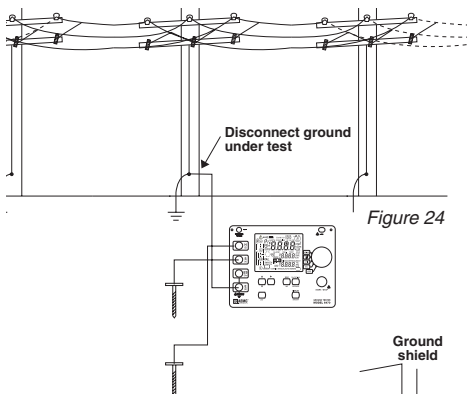

Figure 24
B) If the previous method fails, try changing the alignment of the auxiliary cables so that they are not parallel to power lines above or below the ground. (Figure 24)